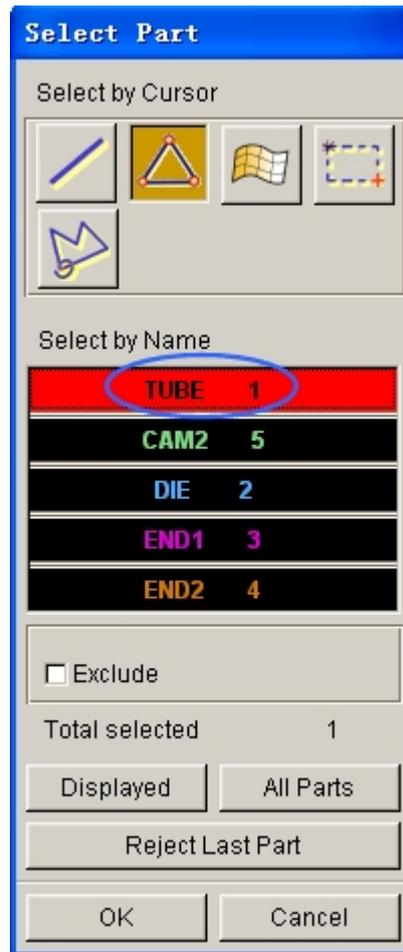

Figure 3.9 Select part dialog box
- Click **Add Part...** button. Use your mouse cursor to select **TUBE** part from the **SELECT PART** dialog box illustrated in Figure 3.9.